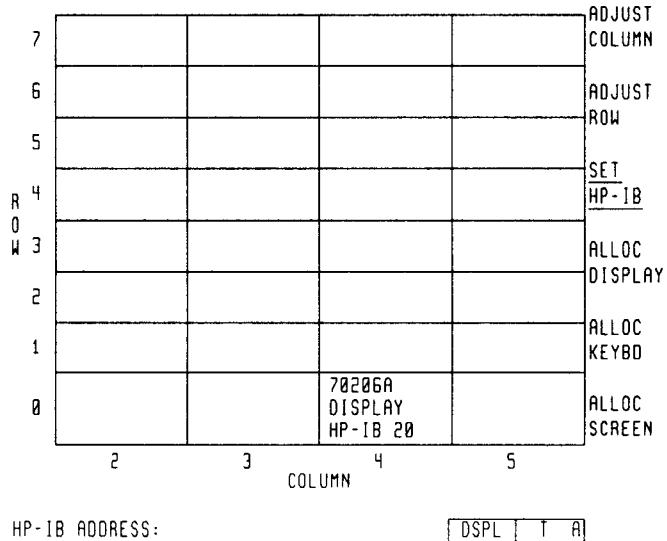

Figure 2-11. Setting HP-IB
8. Press **ENTER**. HP-IB address of the display should immediately change to 20 as in Figure 2-11.